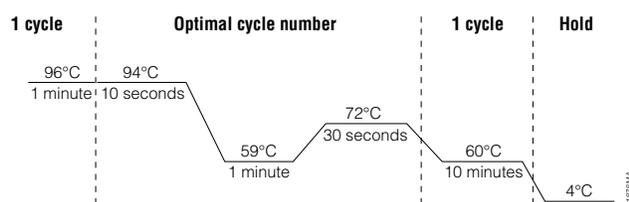

Figure 1. The thermal cycling protocol for the GeneAmp® PCR System 9700 and Veriti® 96-Well Thermal Cycler.
2. Select and run the recommended protocol, which is provided below and in Figure 1.